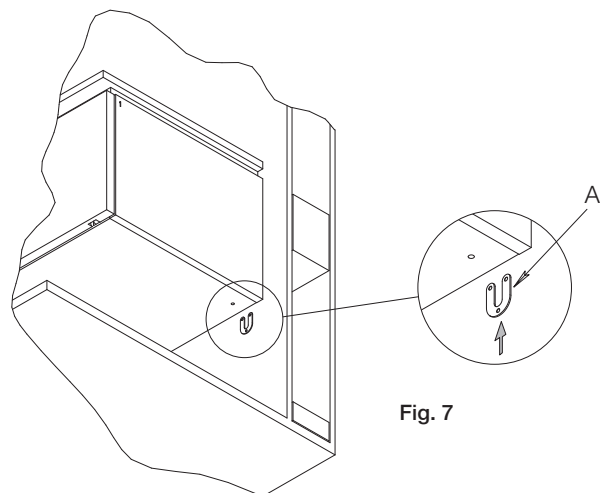

Fig. 7
2. If the unit contains a marble section, remove the raw wood that was assembled for shipping purposes. Using the 2-sided tape provided with the marble, secure it place on the worksurface. (Fig. 7)